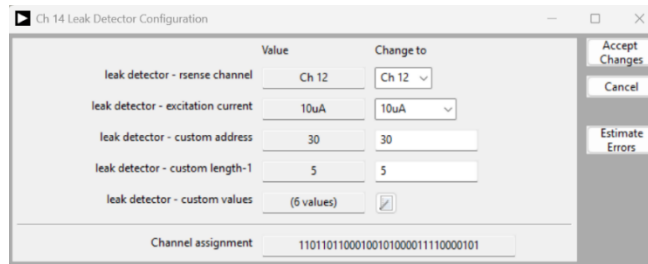

Figure 6. Leakage Detector Configuration Window
- Click the notepad icon in the **Edit** column for CH14. A dialog window is displayed as shown in Figure 6.